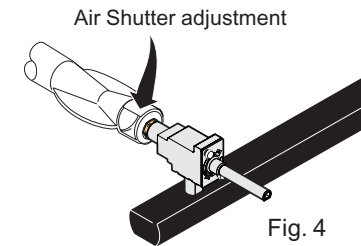

Fig. 4
1. The air shutter adjustment for each of the 4 surface burners is located at the open end of the venturi tube near the valve gas orifice (See Fig. 4). Should the air shutter need adjustment, rotate the air shutter to allow more or less air into the burner tube. If the air is properly adjusted, the flame will be steady, relatively quiet, and have approximately 1/2" sharp blue cone (usually the center of air shutter's adjustment). If the flame is yellow in color, increase air shutter opening size. If the flame is a distinct blue but lifting away from the burner, reduce the air shutter opening size.